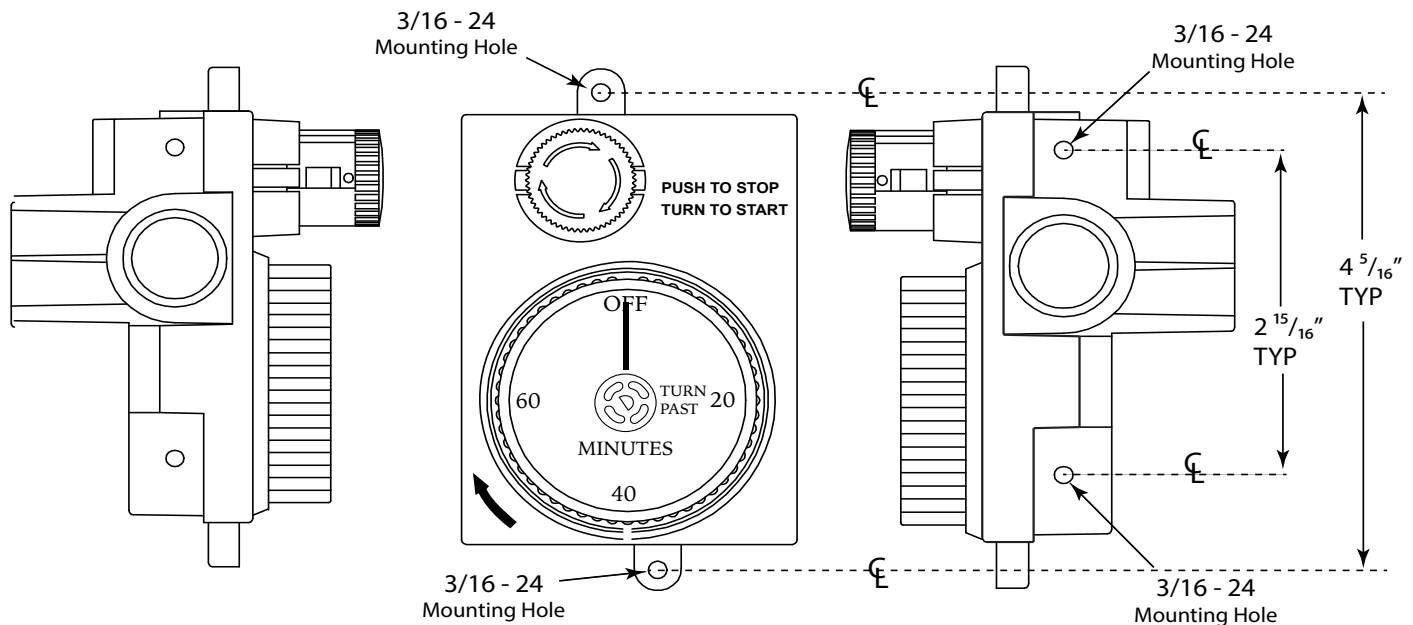

Fig. 1 Gas Timer mounting hole locations applicable to both models.
Each Gas Timer has the ability to be mounted from the side of the body, using the four (4) provided holes (two mounting holes per side) or using the two mounting hole tabs at the top and bottom of the body when facing forward. Each mounting hole uses 3/16 - 24 machine screws to secure it into position. **Note:** We recommend using stainless steel screws for any outdoor applications. See Fig. 1 for details.